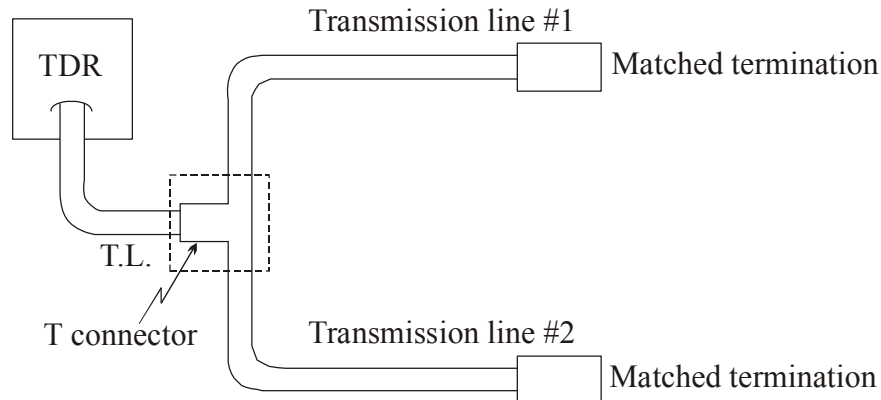

Figure 6. TDR connected to a parallel combination of transmission lines.
h) Next, create a more complicated network including a T junction of two cables. There are several possible assemblies, one of which is shown in figure 6. Observe and record the TDR waveforms from at least three different configurations of T-junction transmission lines with various loads. Explain the reflections that you see. Hint: Start simple, such as the configuration in figure 6, and replace the matched terminations with other loads one at a time.